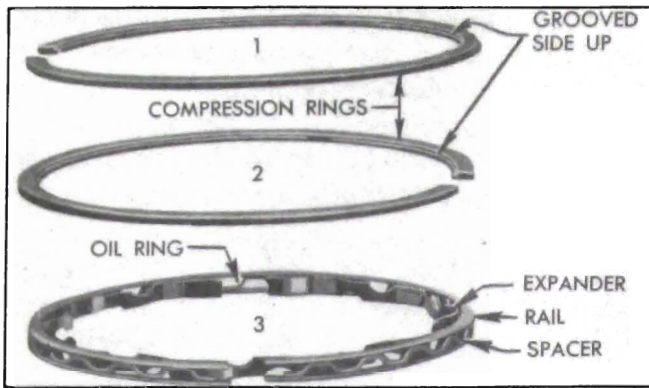

Figure 2-35—Compression and Oil Rings
7. Remove oil rings if they are the flexible first type, then remove compression rings using Ring Expander KMO-232. If oil rings are the second type, remove the two rails, spacer, and expander which are separate pieces in each piston third groove. See figure 2-35.
4. Install compression rings in second and first grooves of each piston, using Ring Expander KMO-232. Be sure to place the grooved or beveled side of each ring toward top of piston. See figure 2-35.